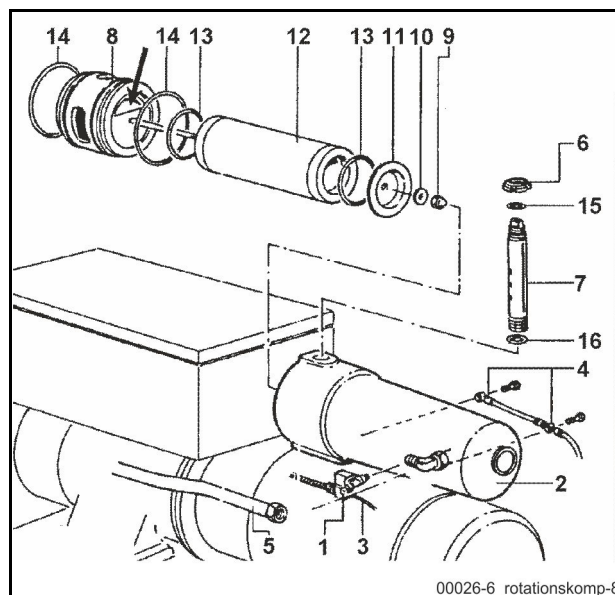

Fig. 364 Oil separator cartridge
- Disconnect the plug for the solenoid valve **(1)** on the separator housing **(2)** (**Fig. 364**) and loosen the air hose **(3)**.